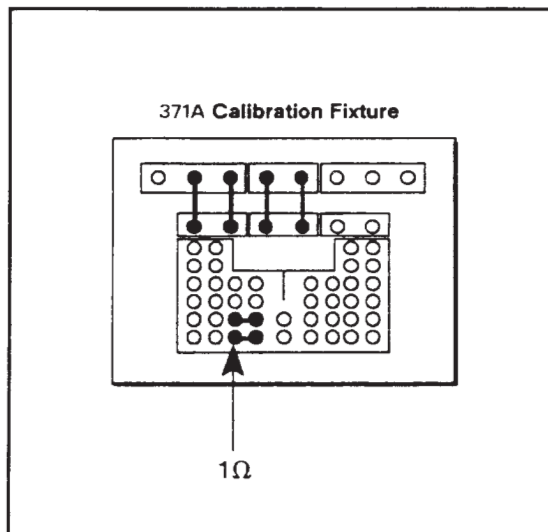

Figure 4-7. Calibration Fixture setup for measuring high collector current measurement accuracy.
7. Connect the short patch cords and plug the two shorting bars over the 1 Ω load resistor label as shown in Figure 4-7.